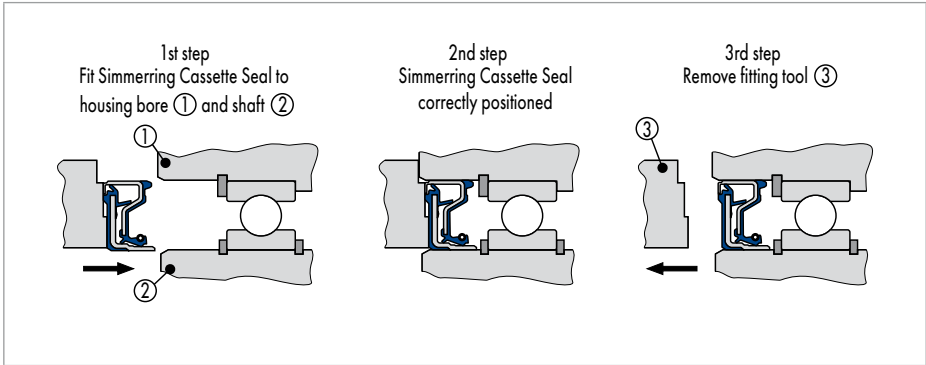

Fig. 55 Fitting of Simmerring Cassette Seal – Case C ("parallel")
- Parallel fitting (→ Fig. 55 )